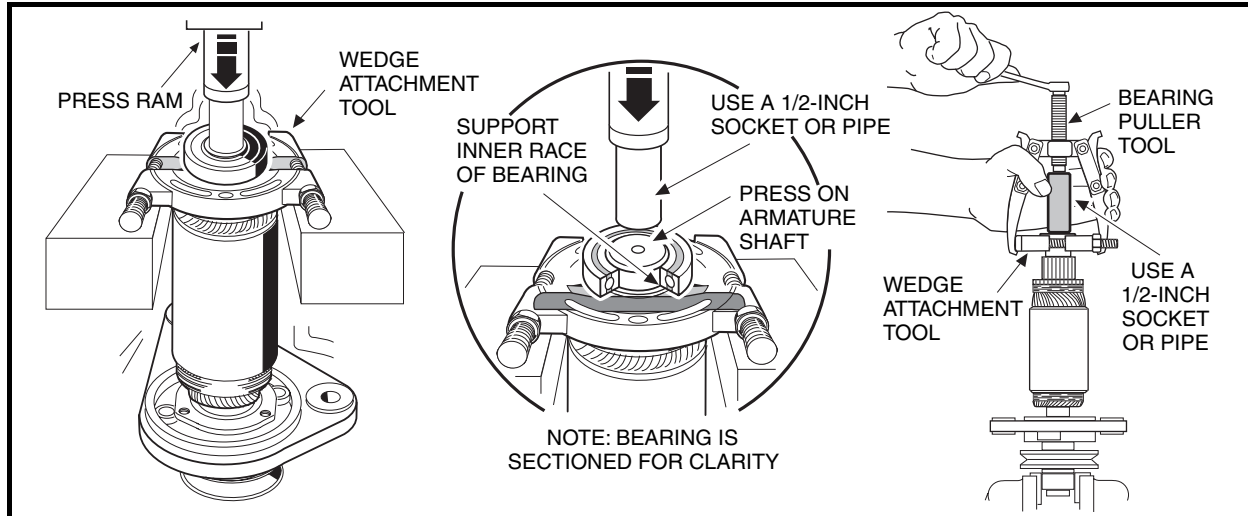

Figure 13-9 Bearing Removal
1. Place the wedge attachment tool (CCI P/N 1012812) between the bearing and the armature. Make sure the wedge attachment tool is supporting the inner race of the bearing. If a press is not available, secure a bearing puller (CCI P/N 1012811) to the wedge attachment tool and pull the bearing off of the end of the armature shaft. Support the armature so that it will not drop when the bearing is removed (Figure 13-9, Page 13-6).